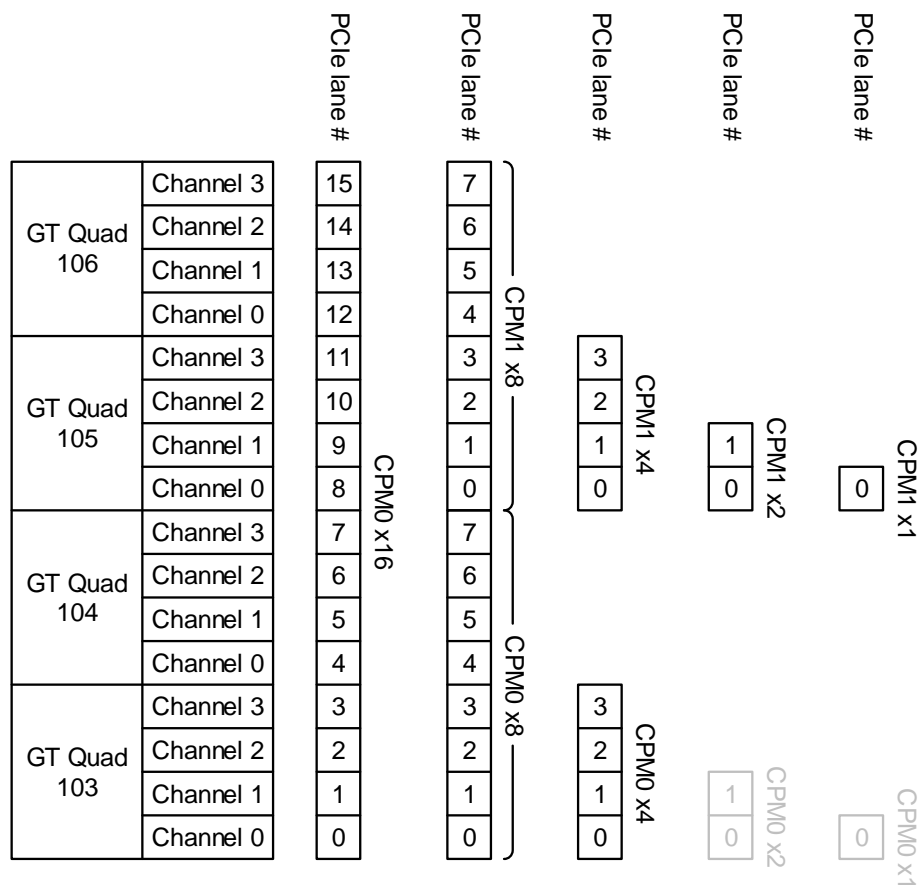

Figure 3: CPM PCIe lane width options
In the VC1902 Adaptive SoC, the "Control Interfaces & Processing System" contains two CPM4 blocks, which can each operate as a PCI Express Gen 1/2/3/4 x1/x2/x4/x8/x16 endpoint. However, the total number of PCIe lanes in use by one or both CPM4 blocks cannot exceed 16 because only GT Quads 103 to 106 can be used with the CPM4 blocks. In addition, there are restrictions on which GT Quads can be used for each CPM4 block at various lane widths. Figure 3 below illustrates the allowed combinations of CPM4 block 0 and CPM4 block1 and their allowed lane widths.
- CPM4 block 0 can be configured for x4, x8 or x16 width but not x1 or x2 width, represented by the grayed out graphics in Figure 3. The reason for this restriction is not known.